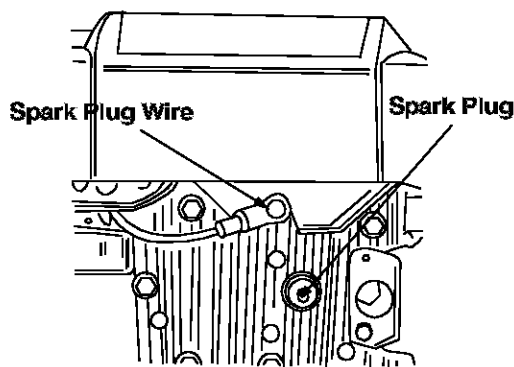

Figure 1
- Before setting up your lawn mower, disconnect the spark plug wire from the spark plug, and attach rubber boot to a bolt on the engine to ground. See Figure 1.